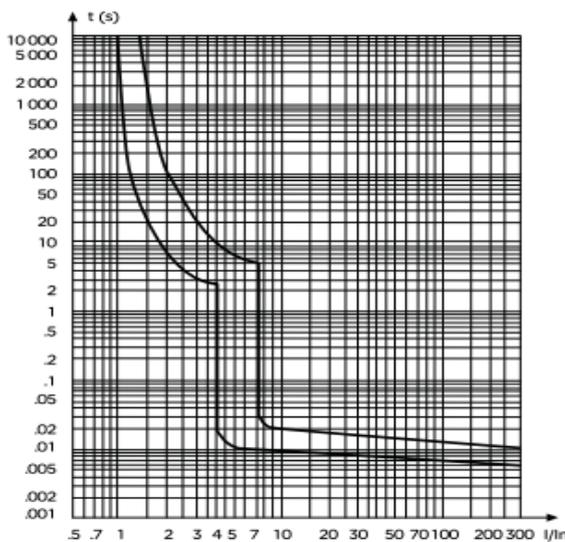

Fig.1 Type B
- Protection feature curve of circuit breaker. Refer to Fig. 1, 2 respectively